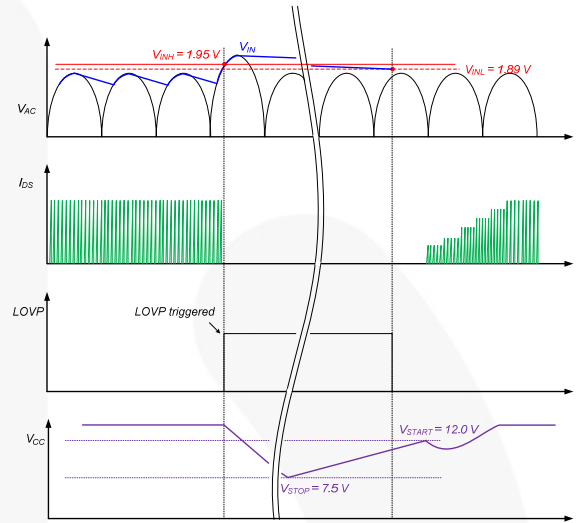

**Figure 24. Output-Short Protection**
**4.3. Output-Short Protection (OSP):** If the output is shorted, steep current with extremely high di/dt can flow through the SenseFET during the minimum turn-on time. Such a steep current creates high-voltage stress on the drain of the SenseFET when turned off. To protect the device from this abnormal condition, OSP is included. It is comprised of detecting  $V_{FB}$  and SenseFET turn-on time. When the  $V_{FB}$  is higher than 2.0V and the SenseFET turn-on time is lower than 1.0 $\mu$ s, this condition is recognized as an abnormal error and PWM switching shuts down until  $V_{CC}$  reaches  $V_{START}$  again. An abnormal condition output short is shown in Figure 24.